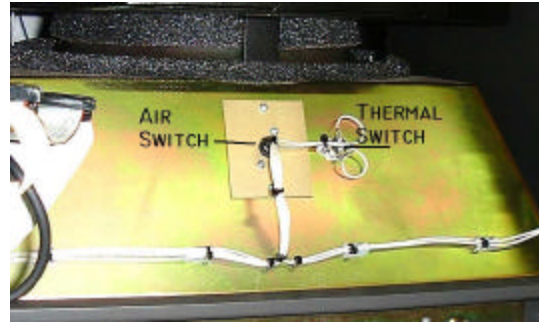

Figure 3: Thermal Switch/Air Switch Location
- With the transmitter operating at full power, connect a spectrum analyzer to reject load sample port for PA1/PA2. See figure 3.